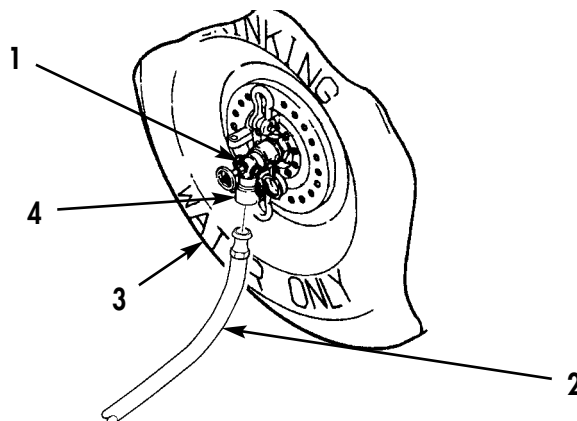

Figure 2. Connecting to Coupler Valve.
4. Install three coupler valves (Figure 2, Item 1) on drums (Figure 2, Item 3). Refer to WP 0009.
5. Remove cap from male coupling (Figure 2, Item 4), and connect 2 in. (51 mm) DIA x 10 ft (3 m) long suction hose assembly (Figure 2, Item 2) to coupler valve (Figure 2, Item 1) on three drums (Figure 2, Item 3).